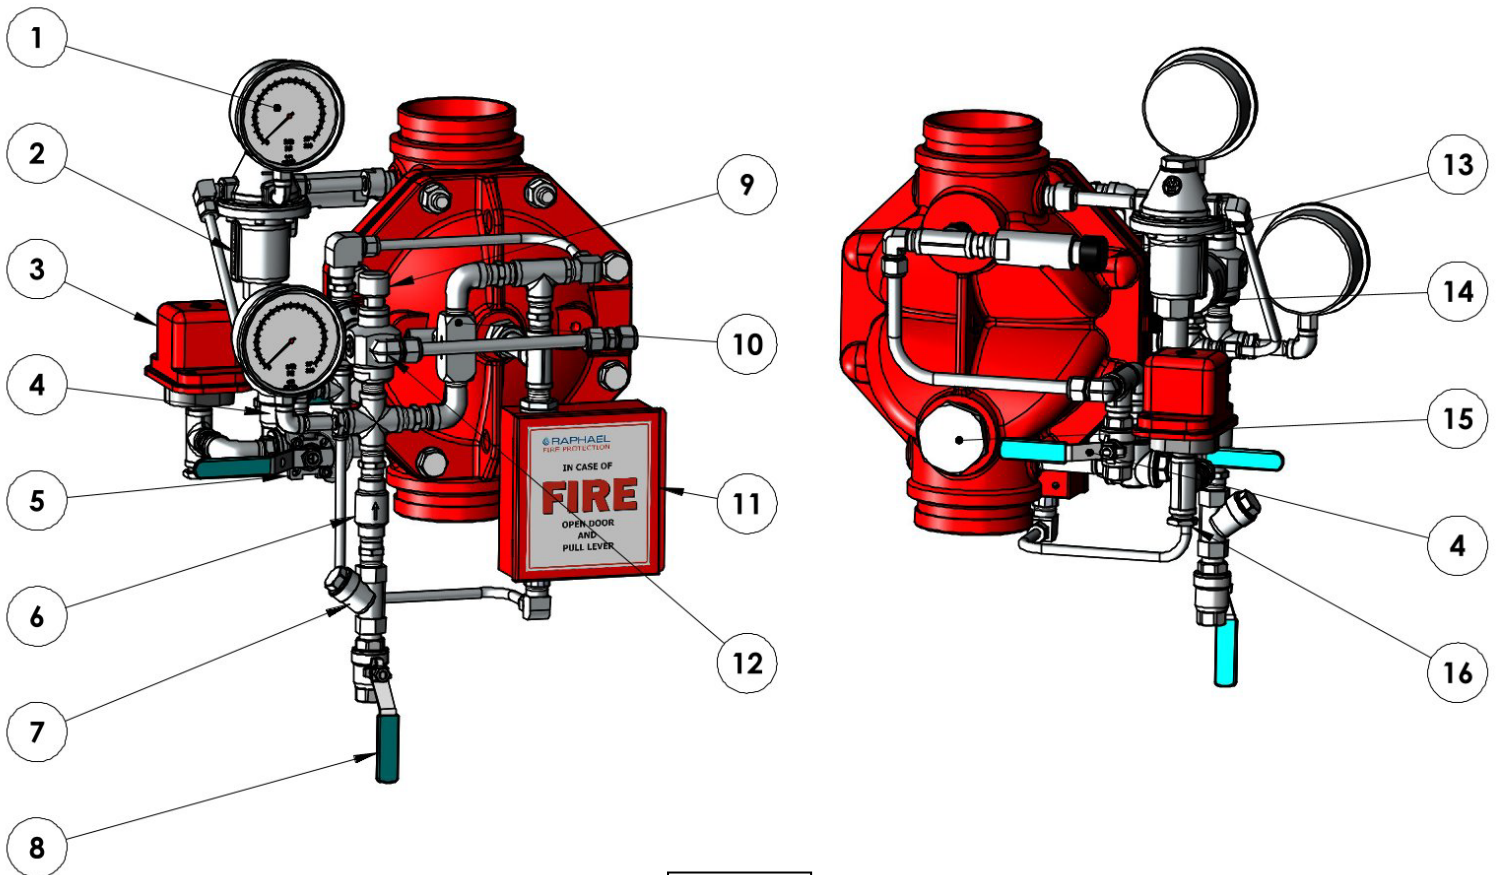

Figure .1
Operation (Reference Figure 1)
- (1) – Trim pressure supply connection - 1/2" NPT female.
- (5) – Alarm gong to alarm test valve - 1/2" NPT female.
- (12 Fig 1) – wet pilot line (optional) connection – 1/2" NPT female (plugged).
- (7) Pressure switch (optional) connection - 1/2" NPT female (plugged).